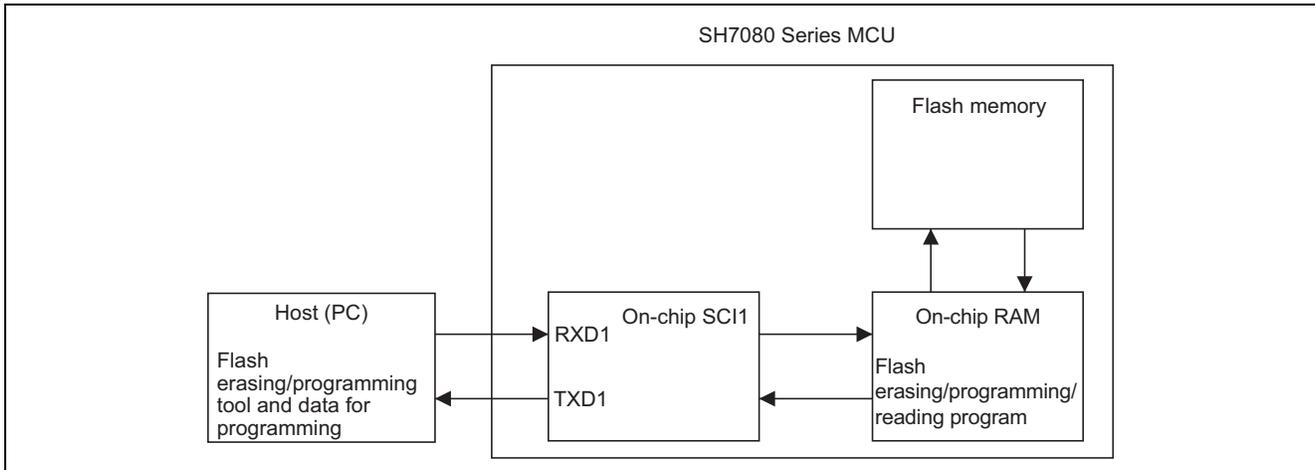

Figure 1 Erasing and Programming Flash Memory in User Program Mode
In this sample application, the user program mode is employed to erase and program on-chip flash memory while a user application program is being executed. Serial transfer with the UART of a host system (PC) is employed, and the flash memory is placed in the programmable state by when reception of the corresponding command from the host (PC) is detected. Figure 1 shows the basic specifications of this sample application.